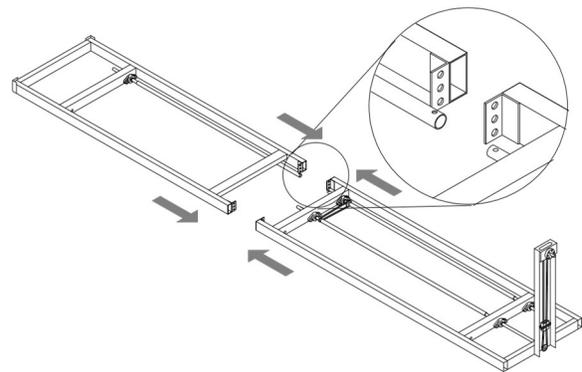

Figure 14
- Axle Shafts:** Lay the carriage sections together as shown in the shop drawings and install the pipe axles, bolting them to the stub shafts protruding through the bearing blocks. Use the 5/16" x 1 1/2" bolts with lock washers and nuts provided. Be sure to securely tighten. (Fig. 14). NOTE: Pipe/axles must be installed before carriage sections are joined.